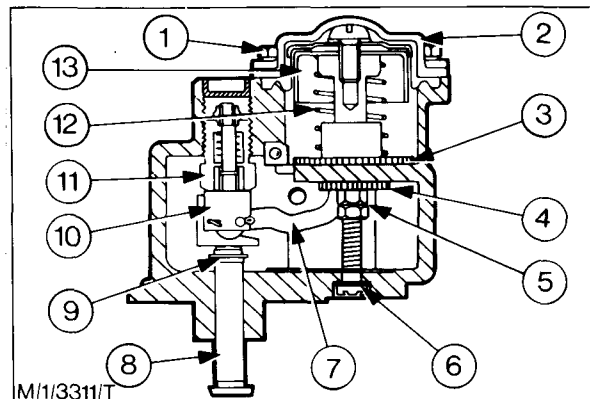

Fig. 55 - Boost Control Unit - Sectional View
1. Fit the knurled intermediate boost fuel adjusting wheel into the housing and screw it in to the limit of its travel (Fig. 55).
17. Fit the maximum fuel rod and secure it with a new 'E' clip (Fig. 55).